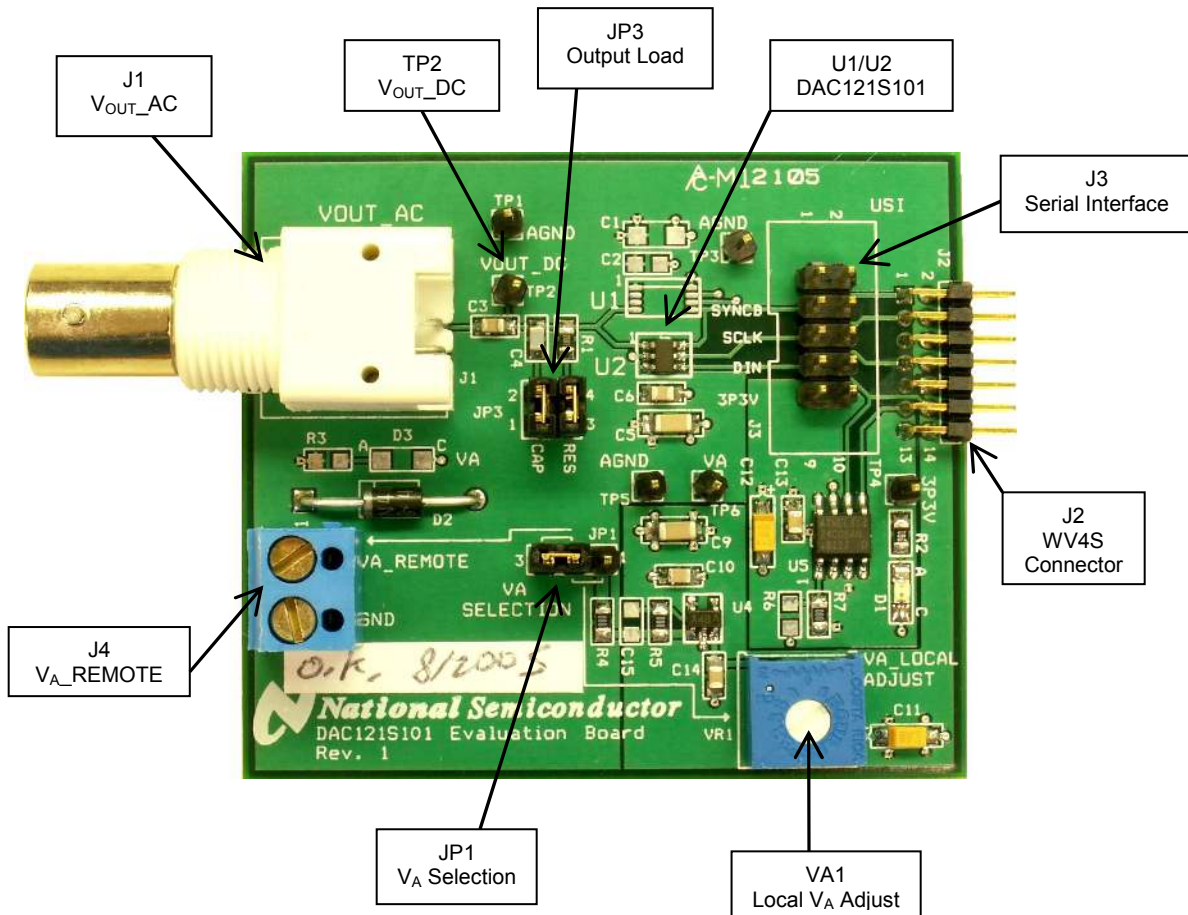
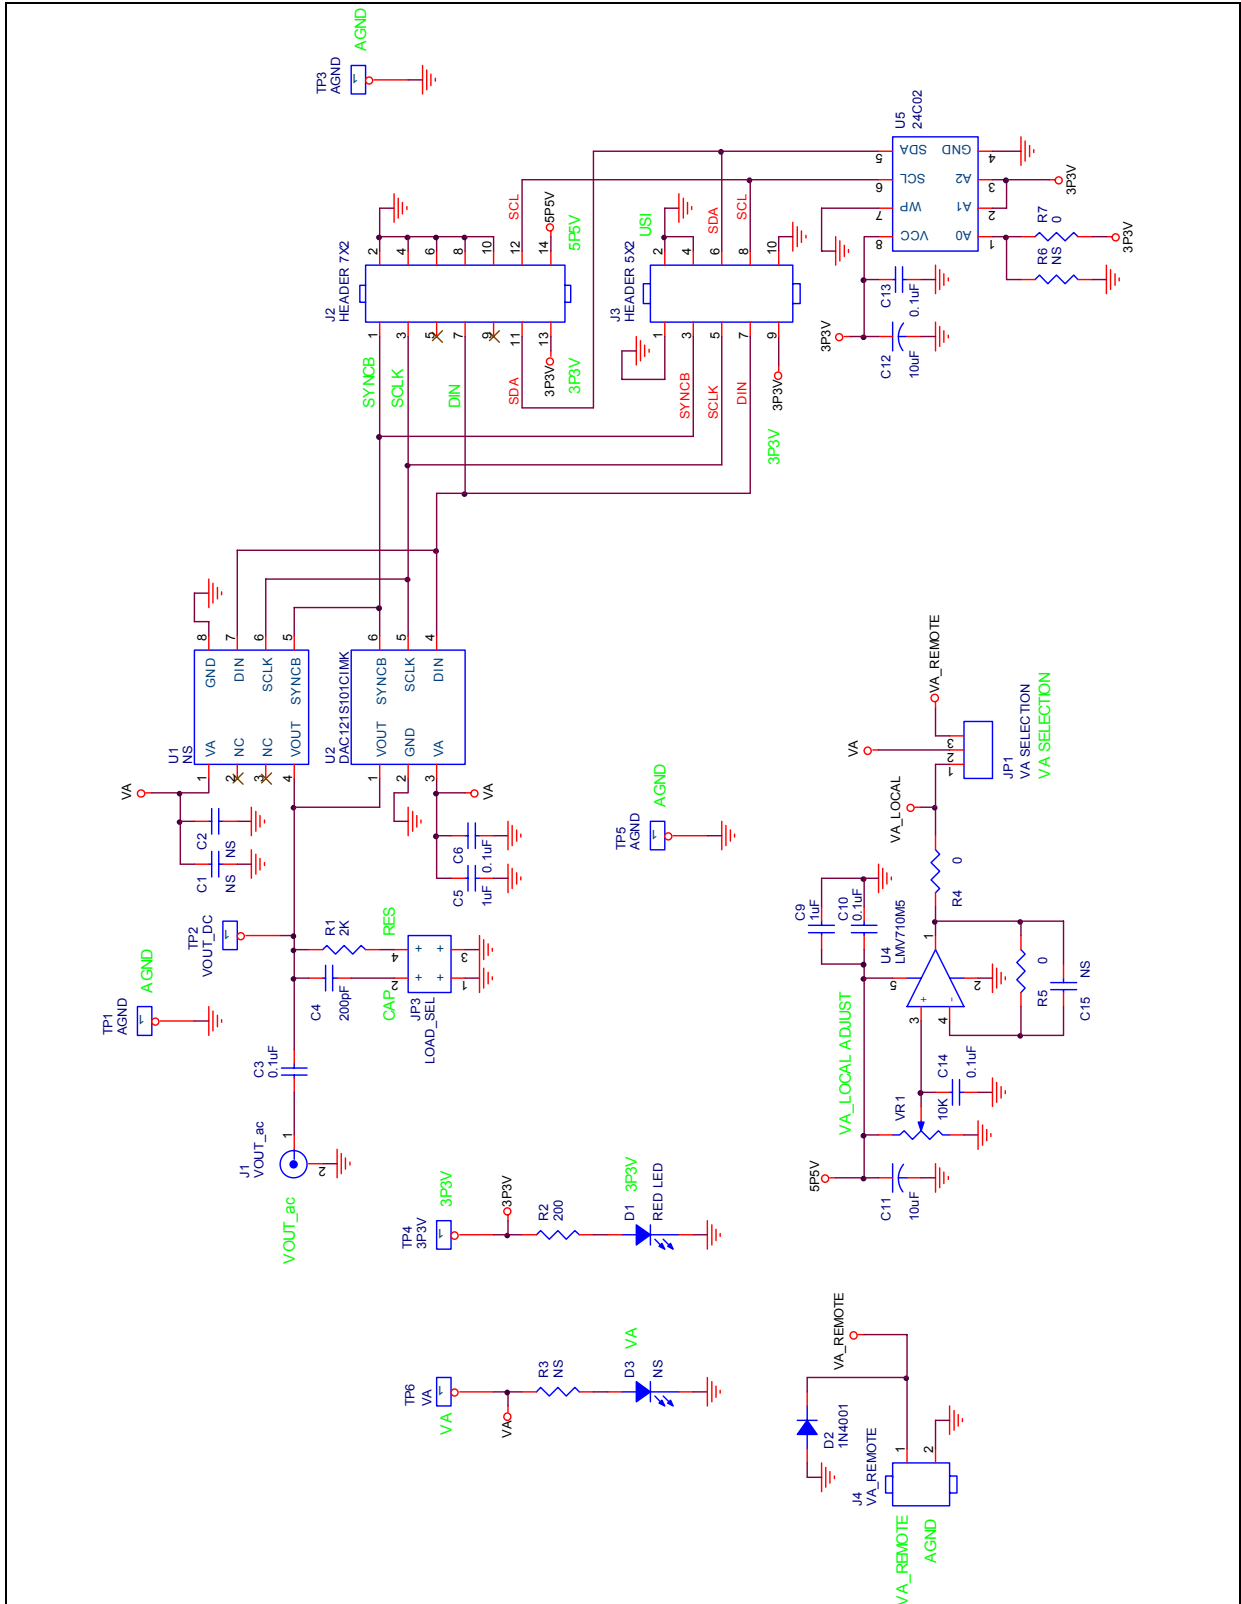

Figure 1: Component and Test Point Locations
Figure 4: DAC121S101 Evaluation Board Schematic
The DAC121S101 evaluation board comes fully assembled and ready for use. Refer to the Bill of Materials for a description of components, to *Figure 1* for major component placement, and to *Figure 4* for the Evaluation Board schematic.
Refer to *Figure 1* for locations of test points and major components.
4. The Analog Output signal can be seen DC coupled at TP2, or AC coupled at BNC connector J1. See the board schematic of *Figure 4* for details.
Table 1 describes the function of the various jumpers on the ADC121S625 evaluation board. The Evaluation Board schematic is shown in *Figure 4*.